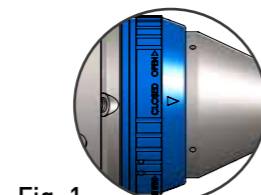

Fig. 1
1. Turn the blue ring to OPEN (Fig. 1).